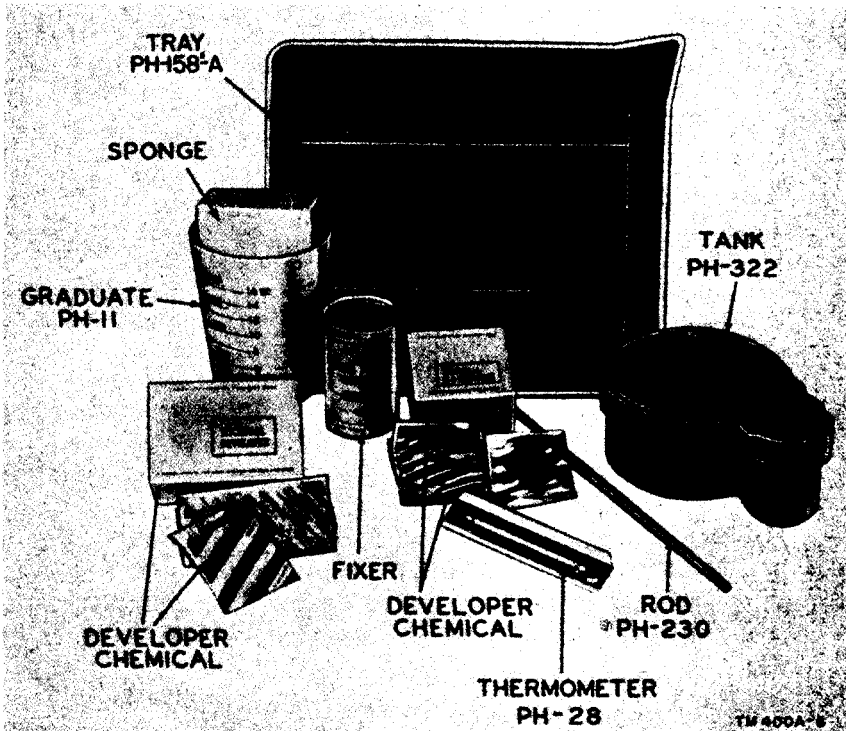

Figure 6. Miscellaneous processing accessories.
- (1) Six packages, containing two units each, of fine grain developer (fig. 6) used for fine-grain development.
- (2) Three packages, containing six units each, of Universal M-Q developer.
- (3) Six containers of single powder hardener and fixer.
- (4) Graduate PH-11, a 16-ounce, beaker-shaped glass graduate used for measuring purposes when processing solutions, are prepared.
- (5) Rod PH-230, a 10-inch long, hard-rubber stirring rod. Two rods are used for mixing the processing solutions.
- (6) Three hard-rubber photographic trays (Tray 158-A) used to hold the print processing solutions.
- (7) Thermometer PH-28, a tank and tray thermometer mounted on a metal back. It has a range of 20° to 120° F. It is used for testing temperatures of processing solutions.